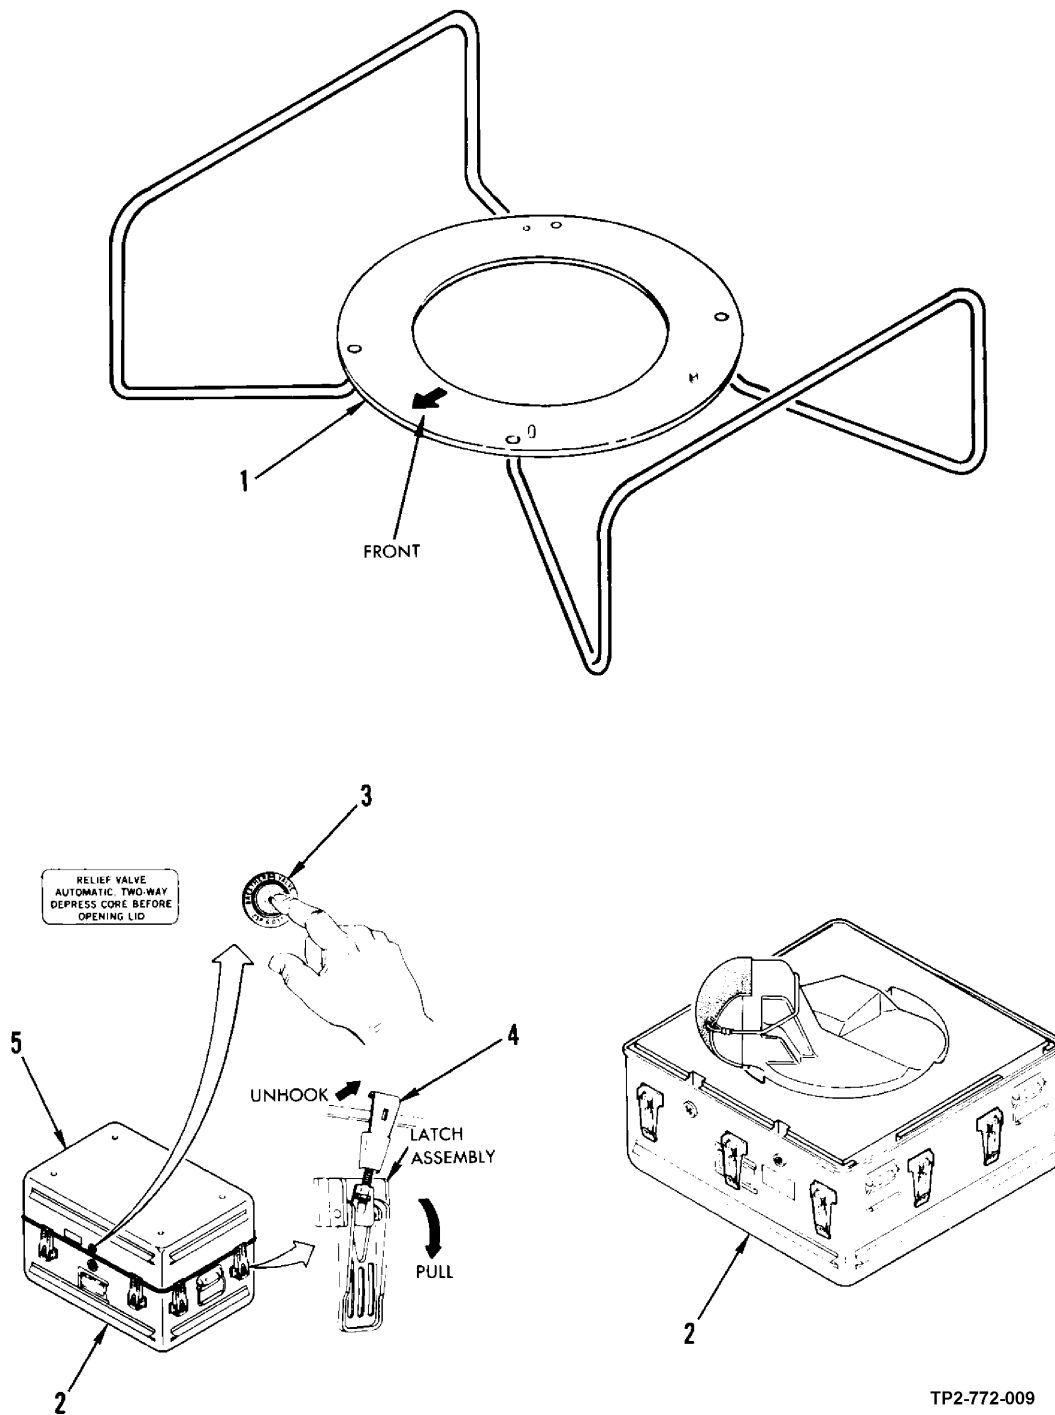

Figure 3-5. PNVS Holding Fixture and Shipping and Storage Container
- (1) Obtain PNVS holding fixture (1, figure 3-5) and place near PNVS turret assembly shipping and storage container (2).
- (2) Open shipping and storage container as follows: